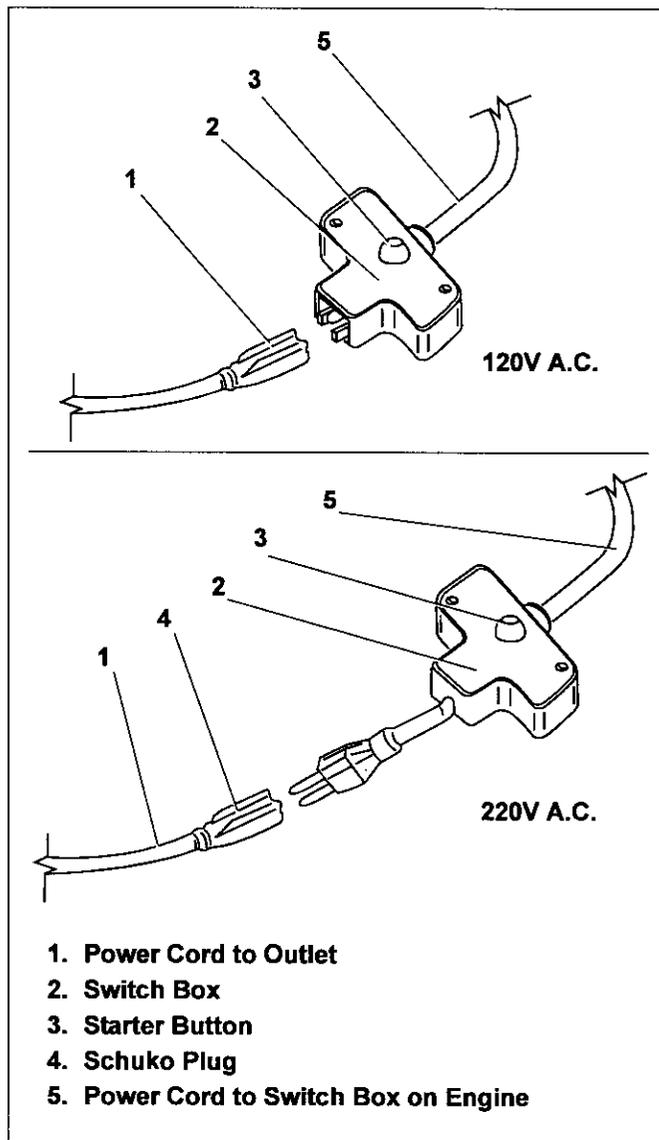

Figure 9. Electrical Applications
*When connecting power cord, always connect power cord to switch box on engine first; then into outlet. See Figure 9.*
2. Connect power cord to switch box on engine. See Figure 9.
*When disconnecting power cord, always disconnect power cord from outlet first; then disconnect switch box on engine. See Figure 9.*
11. Disconnect power cord from outlet. See Figure 9.
12. Disconnect switch box on engine. See Figure 9.